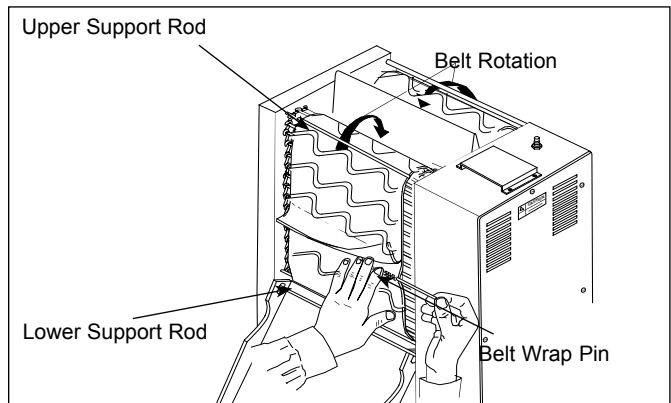

Figure 14. Installing Belt Wrap
7. The belt wraps must be installed properly in order to work correctly. Install the Belt Wraps as shown (Figures 14 & 15) with wrap flap down and the teeth of the belt wrap flush at the ends.